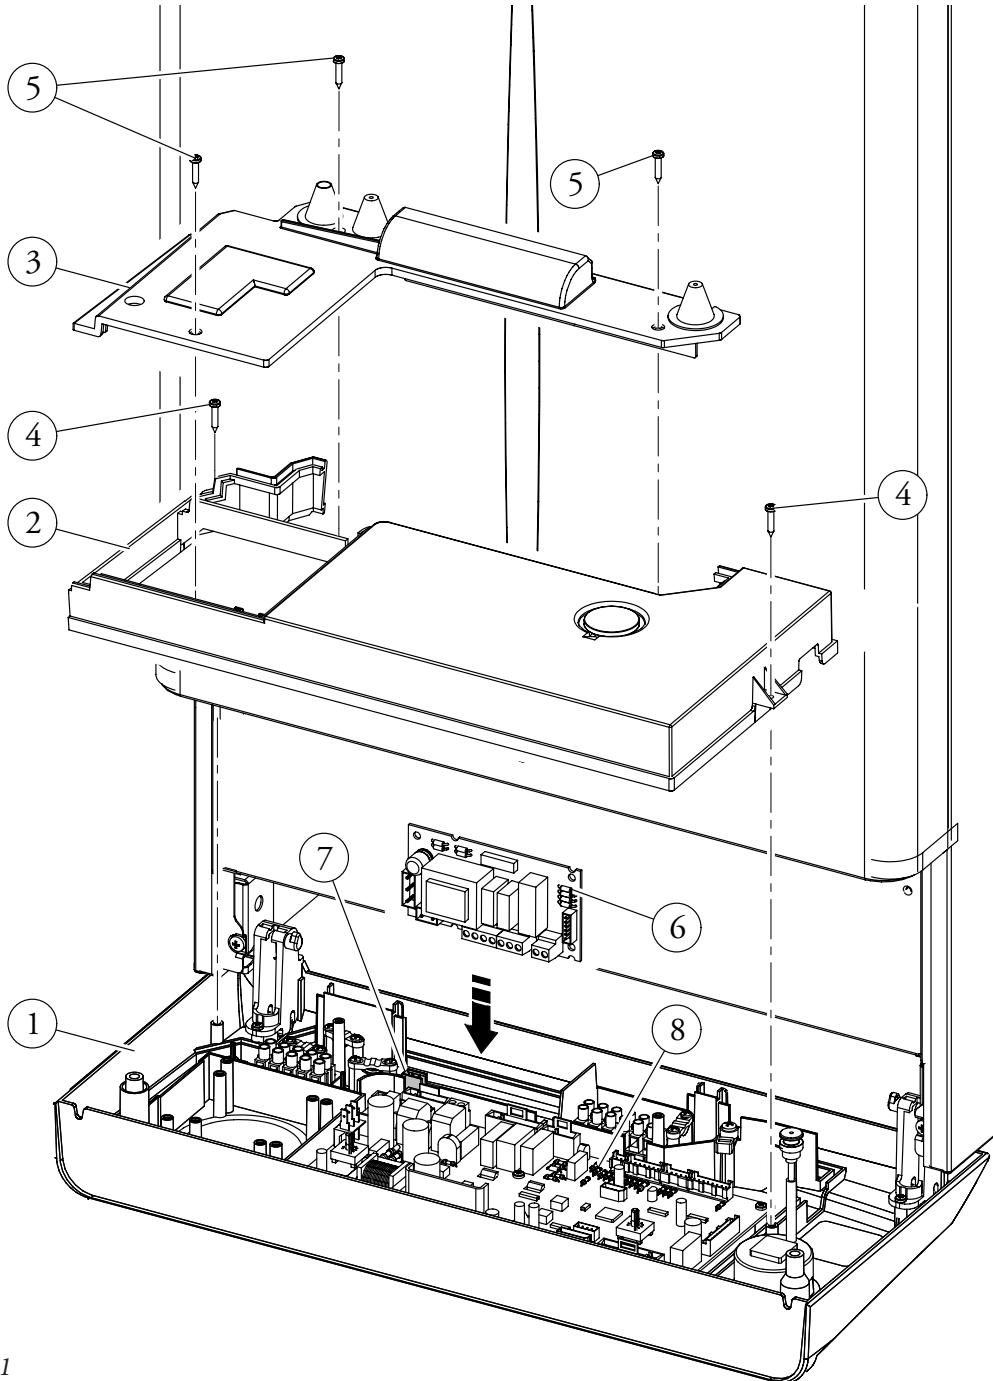

Fig. 6-1
- Open the control panel (1) tilting it as prescribed in the boiler instruction booklet.
- Open the control panel (1) (see Figure 6-1) unscrewing the screws (5) and (4).
- Perform the electrical connections between the relay board (6) and the electronic adjustment card (8) using the two wires present inside the unit. Connect the external components according to requirements following the wiring diagrams given on the next pages.
- Place the relay board (6) in the dedicated seat (7).
- Close the control panel (1), paying attention not to crush the cables present. Re-apply voltage to the unit to return to normal operation.